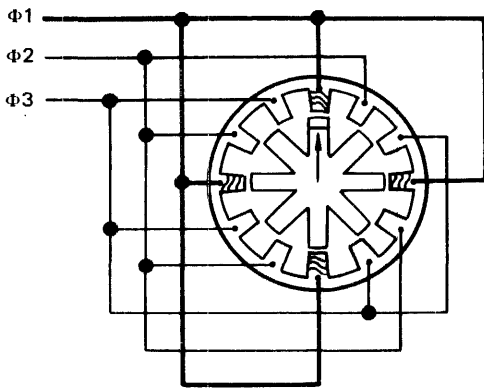

Figure 14 Position 1 (Trk 00)
3.2.2 Figure 14 shows the stepper motor (rear view) with phase 1 of the stepper control logic active. Phase 1 is applied to the four stator windings at 0° , 90° , 180° and 270° . This causes the four rotor teeth closest to those windings to move and line up with the stator windings.
At power on, FF1 and FF2 are reset and the not outputs activate $\Phi 1$ driver. With the $\Phi 1$ driver active, the position 1 windings in the stepper motor are excited and cause the rotor in the stepper motor to align as in Figure 14.